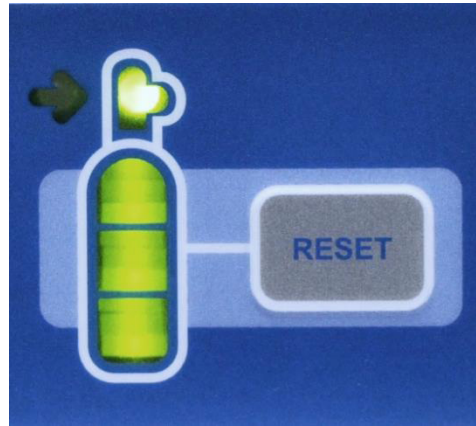

Figure 11: N₂O Gas Gauge RESET Button
- Find the gas cylinder display on the front of the cryoICE BOX and note the RESET button to the right of this display, see Figure 11.